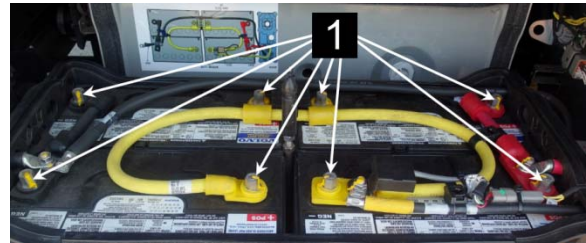

FIGURE 41: INSTALL THE BATTERY CABLE LUGS
5. Connect the battery cables. Tighten the cable terminal (item 1, FIGURE 41) nuts to the following torque: